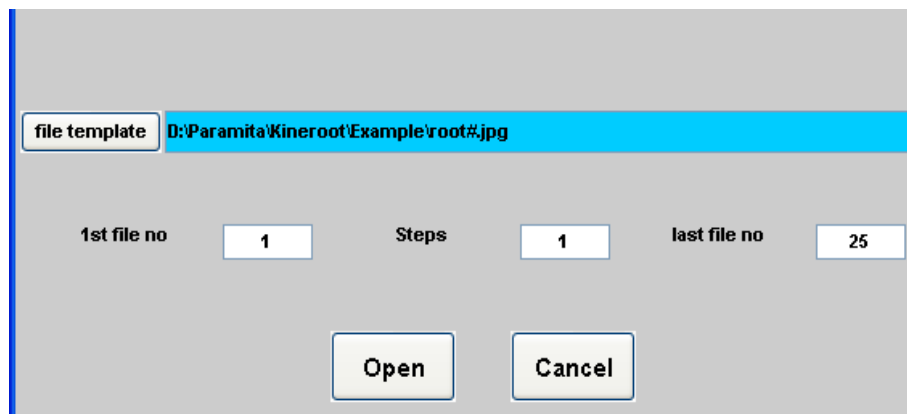

Figure 4
7. For loading multiple image files they must be numbered sequentially e.g. root1.jpg, root2.jpg etc. Select any of the root*.jpg file. Then click on the blue text area to edit the file name. Then we change the name to "...Kineroot\Example\root#.jpg" by putting "#" in place of the sequence number (Fig. 4). (If your files are named root01.jpg and so on, then use ## in place of number, if files are named root0025.jpg, use ##### in place of 0025 and so on.)
8. In "1st file no." box, enter the sequence number of the first file. Here it will be 1 so don't change it (Fig. 4).
9. If you want to skip any files, use steps. By default it will be 1, i.e. every file from first to last will be loaded. Now enter the sequence number of the last file in the last file no. box. Since we have 25 files all of which we want to load, enter 25 and press "Open" (Fig. 4). Please note that if any file is missing an alert will be given on the Matlab prompt.